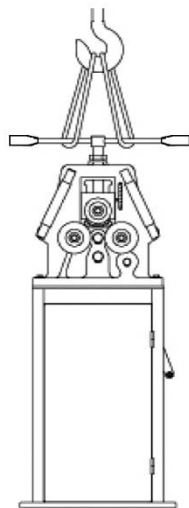

Figure 5-1
1. Remove any fasteners holding machine to pallet, and use forklift or hoist with straps to carefully move bender into position atop stand. Place straps around handle, as shown in Figure 5-1. **Lifting equipment must be properly rated for weight of machine.**